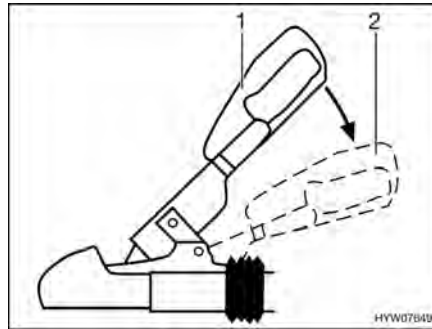

Fig. 197 Stabilising handle
- Activate the stabilising mechanism. To do this, press the coupling handle downwards (Fig. 197,2) from the closed position (Fig. 197,1) to its stop limit.